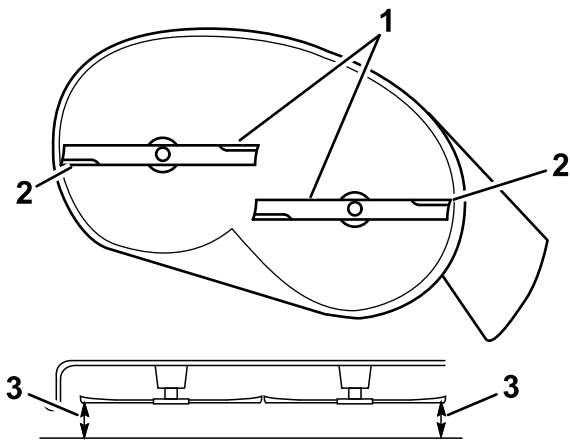

Figure 67
- Measure between the outside cutting edges and the flat surface (Figure 67).